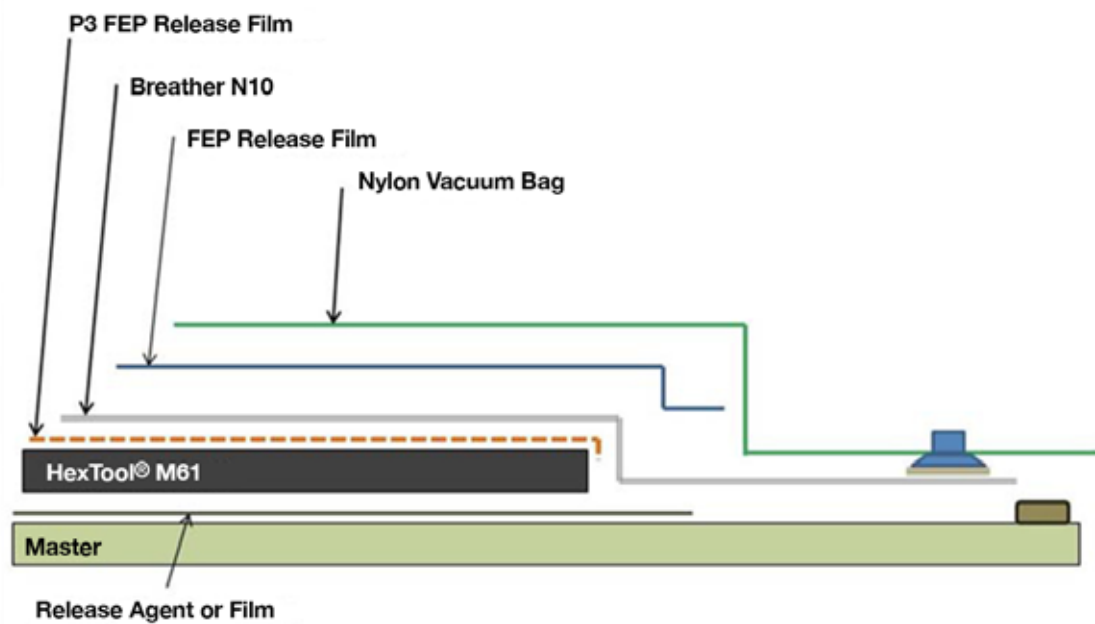

Figure 14
5. Bagging scheme for HPD shown in Figure 14.